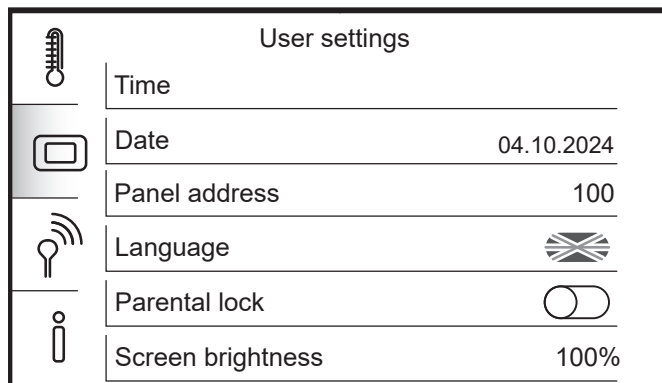

Figure 12-4: User settings menu
4. Then tap the User settings. Refer to Figure 12-4.